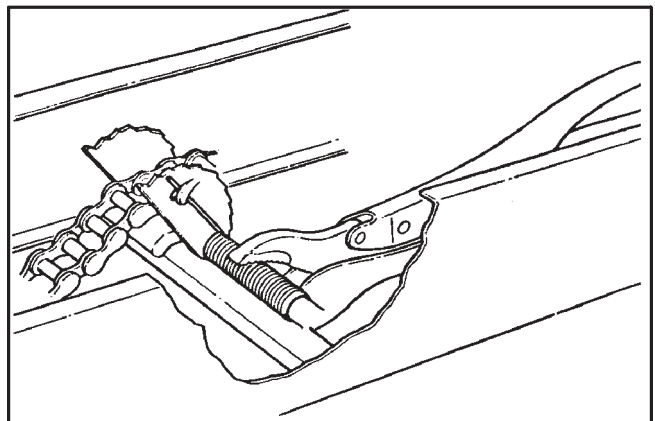

Figure 7-6. Securing tensioner cam
3. Turn the tensioner cam assembly in the direction which winds up the torsion spring and push the assembly down as close as possible to the cam follower block in the bottom of the frame. Secure it in this position with a Vice-Grip 10CR as illustrated in Figure 7-6.
2. Turn the tensioner cam assembly in the direction which winds up the torsion spring and push the assembly down as close as possible to the cam follower block across the bottom of the frame channels. Clamp it in this position with a Vice-Grip 10CR or similar plier as illustrated in Figure 7-6 and remove the drive chain.